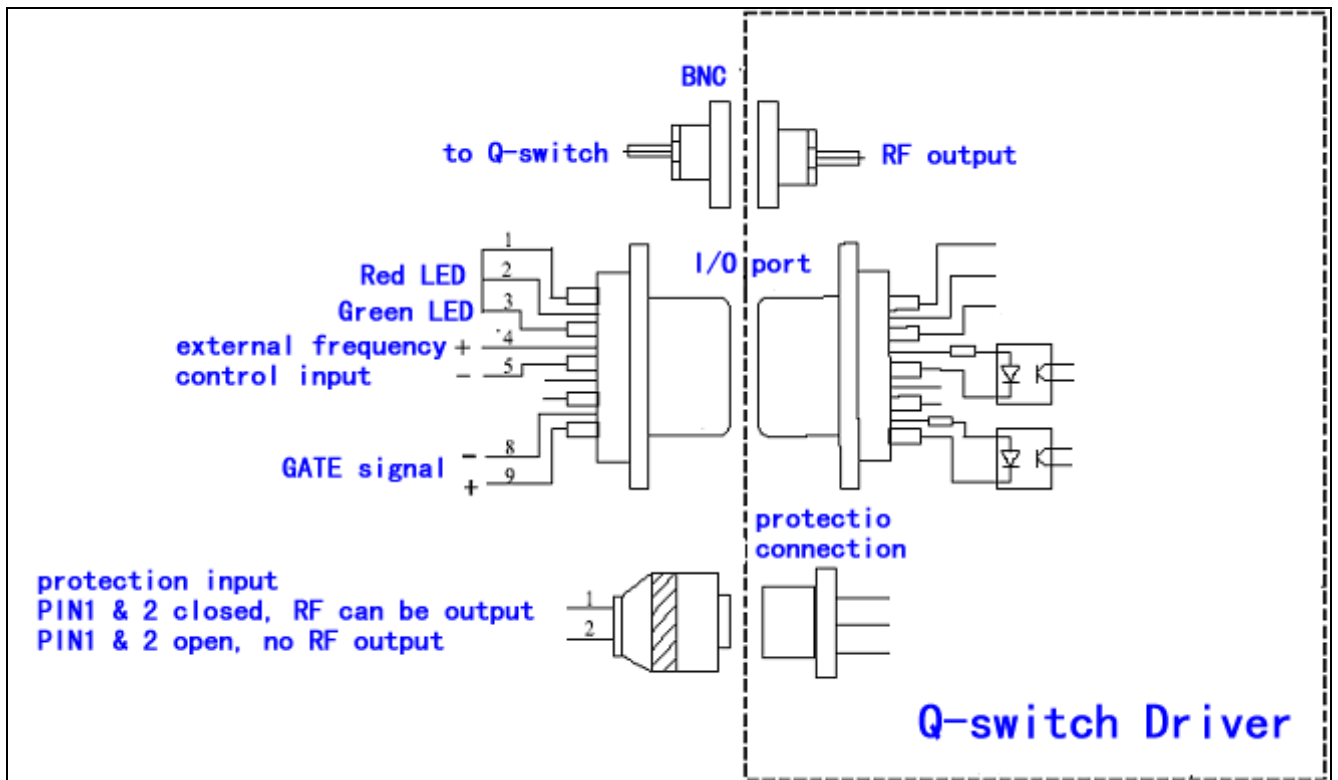

Fig. 6 I/O ports
- 5) Refer to Fig. 6 to connect relevant wires.